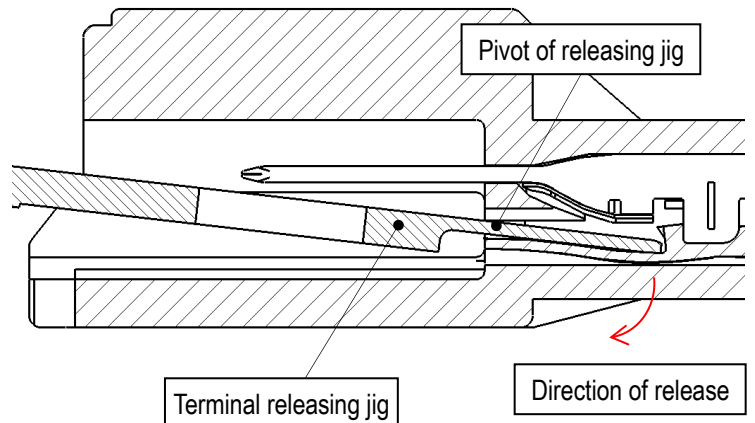

Fig 35. Terminal releasing jig in operation
- ③ Push the releasing jig fully into the lance, then lever up the lance as shown in Fig.35.